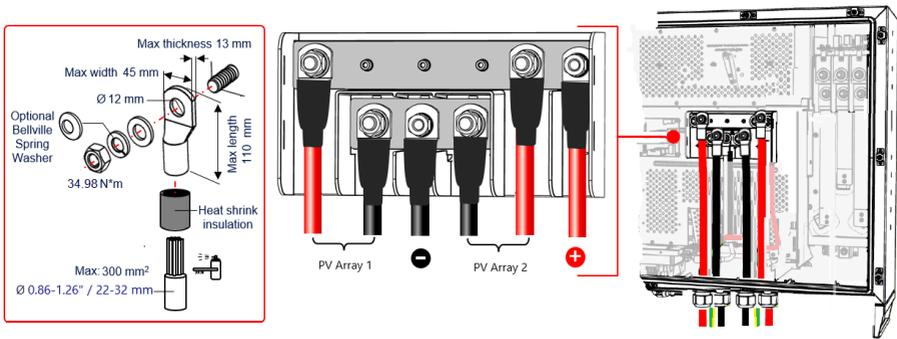

Figure 22: Connecting the DC wires to the Inverter
6. Connect the DC wires to the DC bus-bar according to the labels on the terminals. Tighten the nuts to 34.98 N*m (see *Figure 22*).